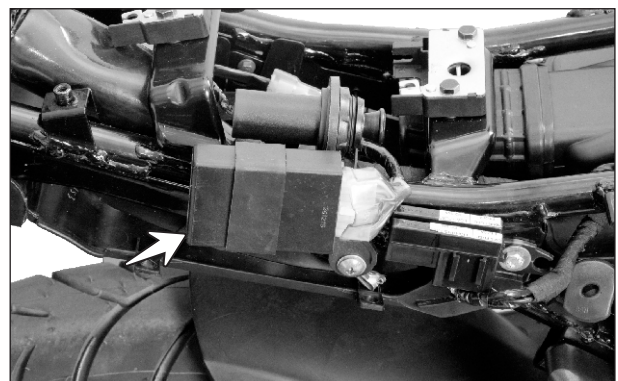

Fig. 5.22
- Head lamp control unit is placed below the pillion seat assembly near fuse holder. Head lamp control unit can be checked by doing a good (or) bad analysis (replacing existing with a new one). (Fig.5.22)